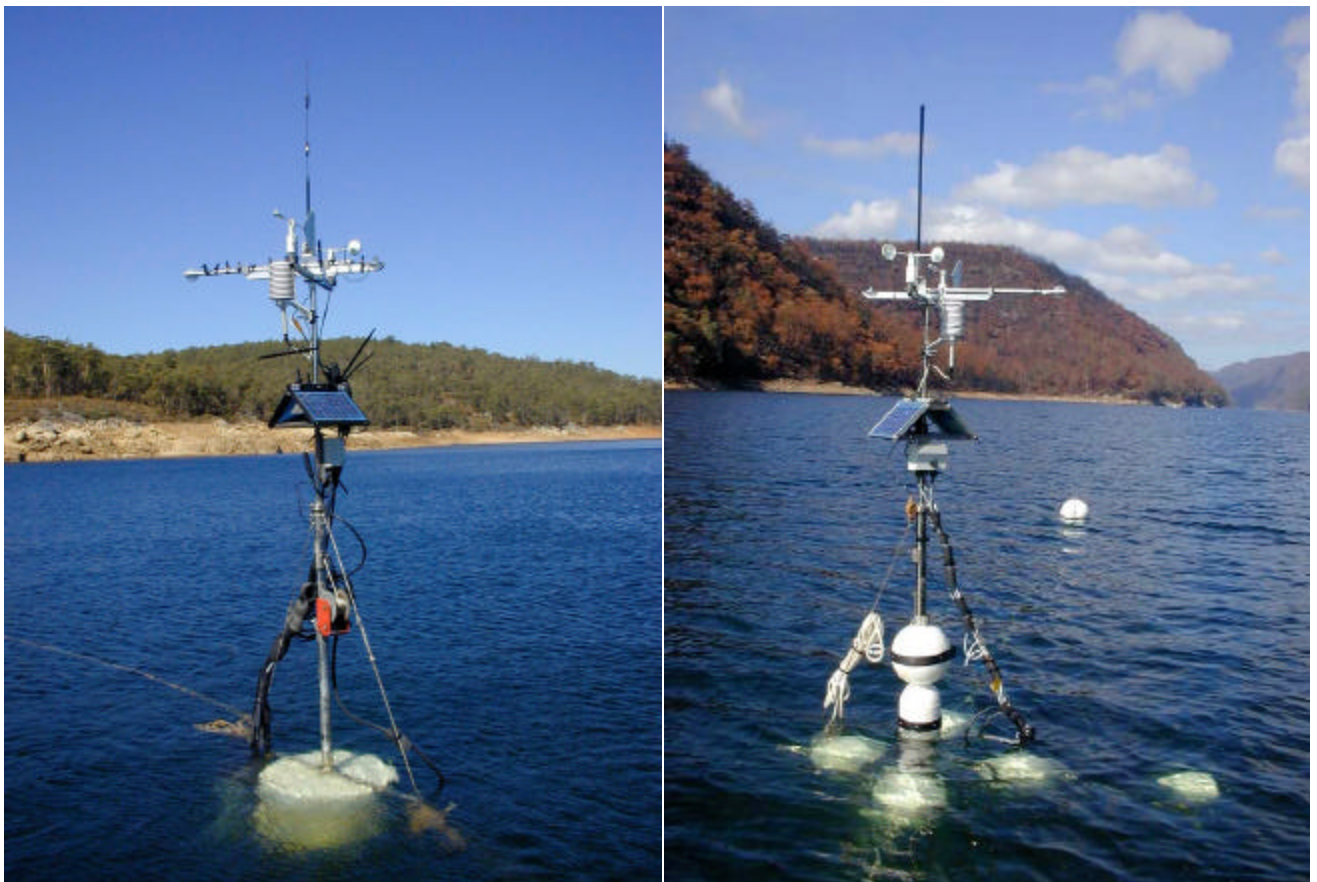

Figure 3.8 Example of standard and water-level compensating lake stations.
17. See Figure 3.8 for an example of a deployed lake station.